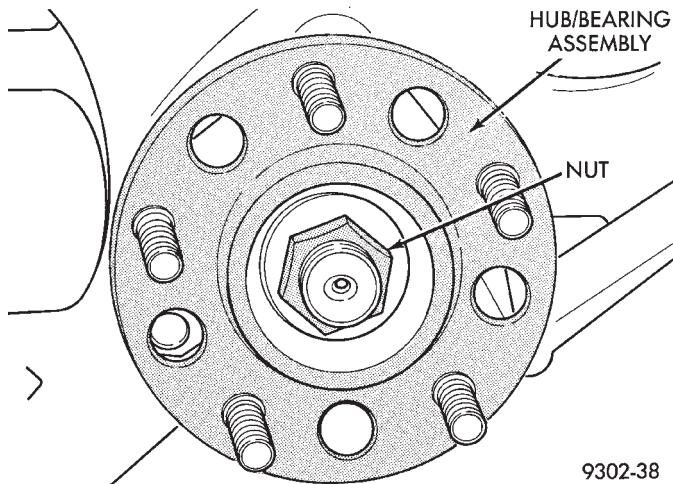

Fig. 3 Hub And Bearing To Stub Axle Retaining Nut
(5) Remove the hub and bearing to stub axle retaining nut (Fig. 3).